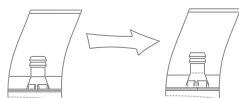
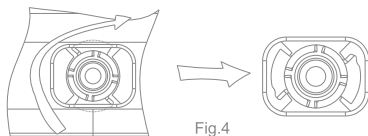

Fig.3
Fig.4
2. Lift the outlet upward by a certain distance as shown in Fig.3, then rotate the outlet clockwise by 90° in the direction of the arrow (as shown in Fig.4), to move the outlet away from obstructions for easy removal.;